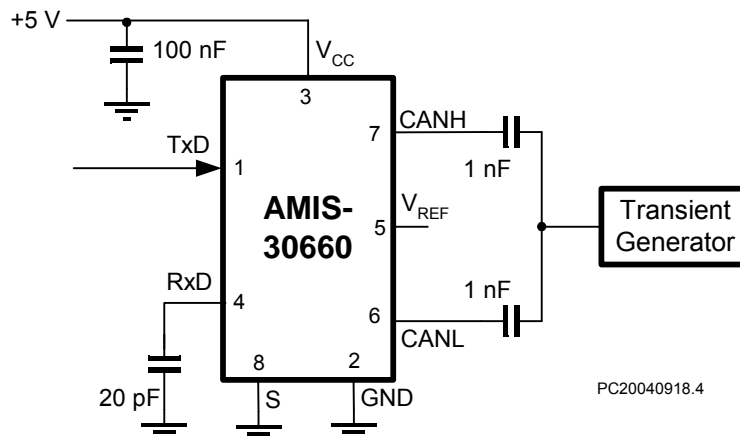

Figure 4: Test Circuit for Automotive Transients
The pins CANH and CANL are protected from automotive electrical transients (according to "ISO 7637"; see Figure 4). Pin TxD is pulled high internally should the input become disconnected.
1. Applied transient waveforms in accordance with ISO 7637 part 3, test pulses 1, 2, 3a, and 3b (see Figure 4).